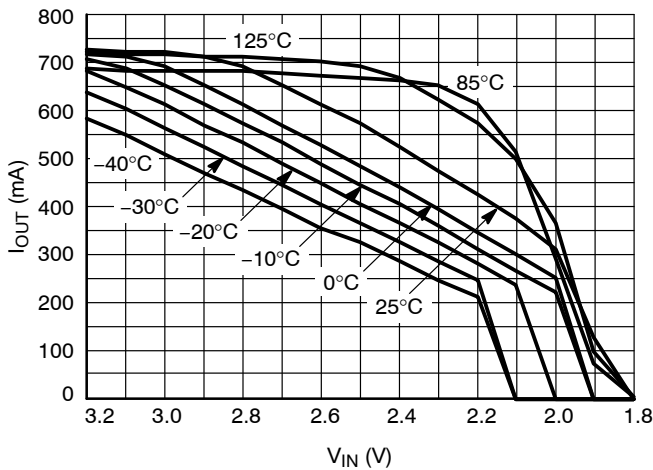

Figure 21. Output Current Capability for the 1.8 V Version
24. For output current capability for $T_A < 0^\circ\text{C}$, please refer to Figure 21.